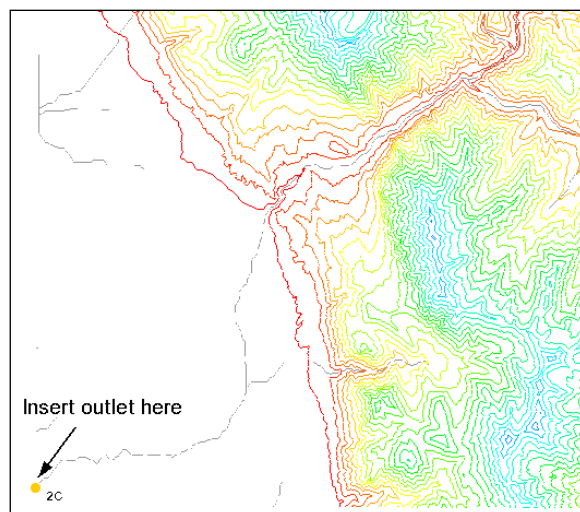

Figure 2-2: New outlet point.
2. Create an outlet on the river in the lower left corner of the DEM, as seen in Figure 2-2. Be sure to click close enough to the river so the outlet snaps to the flow accumulation cell on the stream. The dam is located in the upper right corner of the DEM.